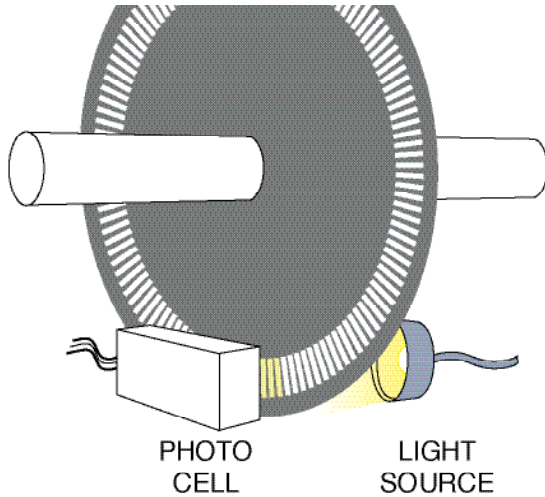

Fig 2
**Optical electronic failure:** Typical encoder construction uses optical sensors with a glass disk. Lines on the disk interrupt a light beam to a photoeye. (Fig 2)